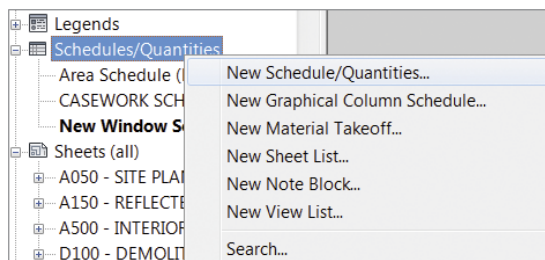

FIGURE 12.7 Start a new schedule from the Project Browser.
1. Let's try a different method for starting a new schedule. In the Project Browser, right-click the Schedules/Quantities node, and then select New Schedule/Quantities (Figure 12.7).